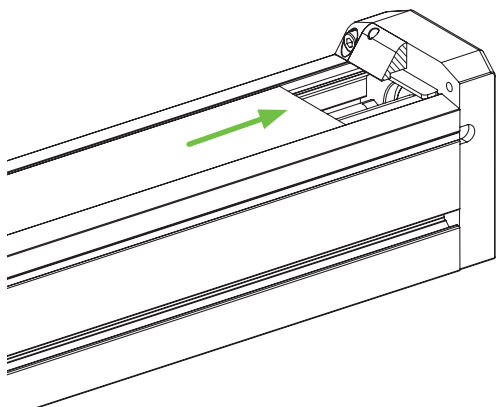
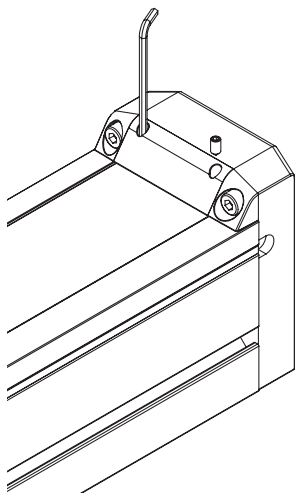

Fig. 7.9 Installing the cover strip in the cover strip clamp on the and linear module HM-S
Fig. 7.10 Installing/removing the cover strip clamp on/from the linear module HM-S
- ▶ Undo the clamping screw of the cover strip clamp at both ends of the axis as shown in Fig. 7.10.
- ▶ Push the ends of the cover strip under the cover strip clamp on both sides. Make sure that the cover strip is aligned centrally with the axis profile and that it is in contact with the magnetic strips across the entire length. Hand-tighten the clamping screws of the cover strip clamp (see Fig. 7.9 and Fig. 7.10).